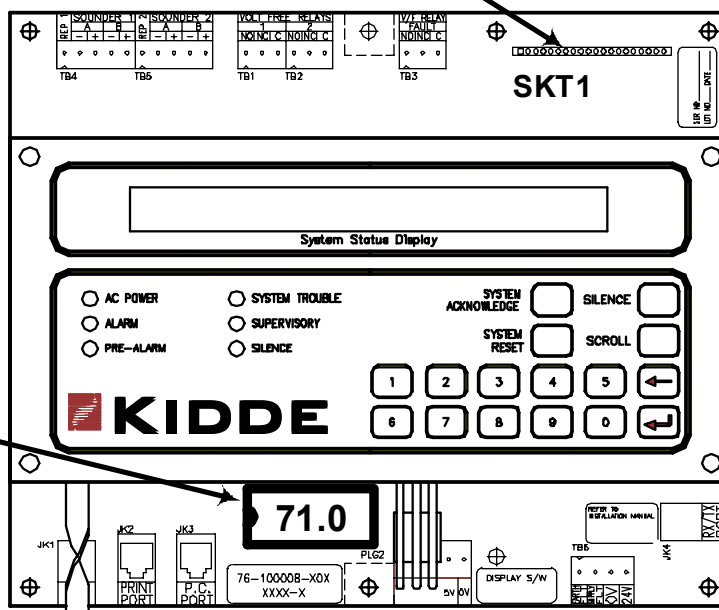

Figure 1. PEGAsys EPROM Location Diagram
Note: The Central Control Module (CCM) must be of the type that has receptacle SKT1 to accept a network interface card (refer to Figure 1).
4. Remove and replace the CCM EPROM chip as follows (refer to Figure 1):